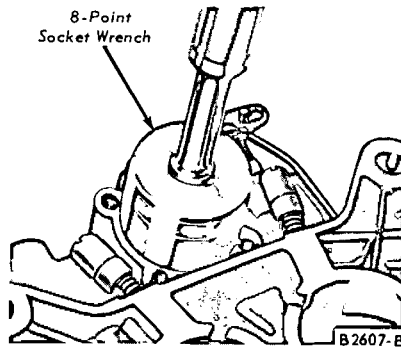

FIG. 18—Power Valve Removal or Installation
7. Invert the main body and remove the power valve cover and the gasket. Remove the power valve with a box wrench or socket wrench (Fig. 18). Remove the power valve gasket. Discard the gasket.
10. Invert the main body. Install the power valve (economizer valve) and new gasket with a wrench (Fig. 18). **Tighten the valve securely.** Install the power valve cover and new gasket.
11. Install the idle mixture adjusting screws (needles) and springs (Fig. 18). Turn the needles in gently with the fingers until they just touch the seat, then back them off the specified (Part 10-11) turns for a preliminary idle fuel mixture adjustment.